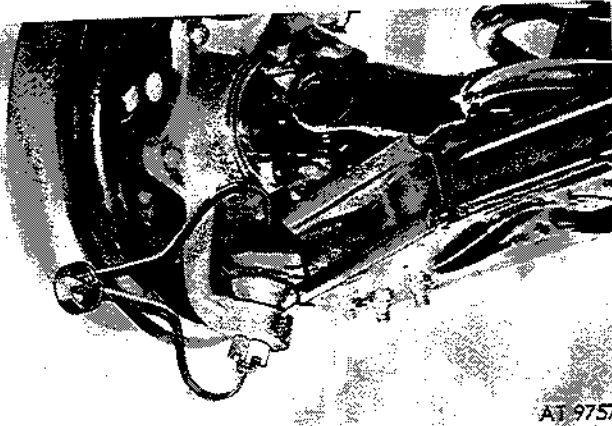

Figure 2-335. Lower ball joint inspection.
b. *Inspection.* Inspect lower ball joint vertical travel as shown in figure 2-335.
(1) Check measurement of ball joint with vehicle resting on wheels.
(2) Raise vehicle to remove all vehicle weight from front suspension ball joints. Check measurement of ball joints.
(3) If dimension with load release is more than 1 / 8 inch (early model lube fitting type) greater than dimension under load, (1) above, replace lower ball joint.